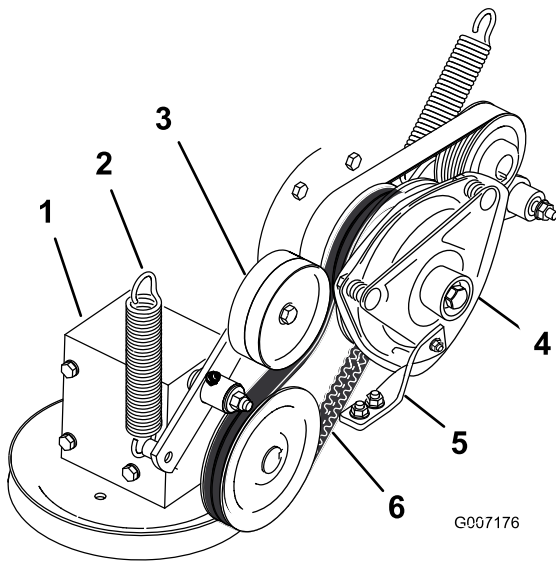

Figure 72
4. Remove the spring from the idler arm (Figure 72).
7. Install the PTO drive belt around the clutch pulley and the gearbox pulley (Figure 72).
9. Install the spring to the idler arm (Figure 72).